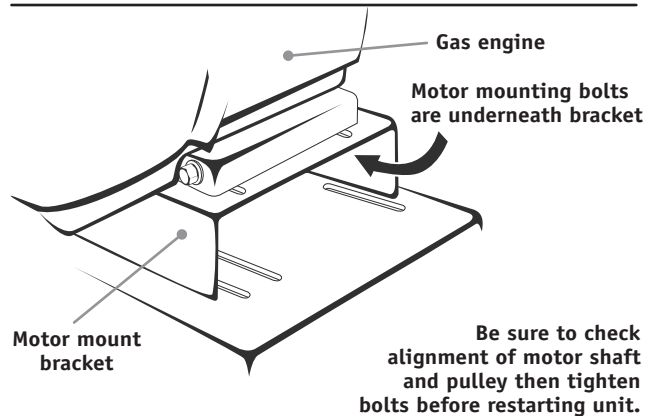

Figure 6: Move motor for belt adjustment
2. Loosen motor (4) mounting bolts, found underneath motor mount bracket. Slide motor in bracket slots as needed for proper tension. See figure 6. **Be sure motor shaft and pulley are aligned properly with pump before tightening motor bolts and restarting unit.**